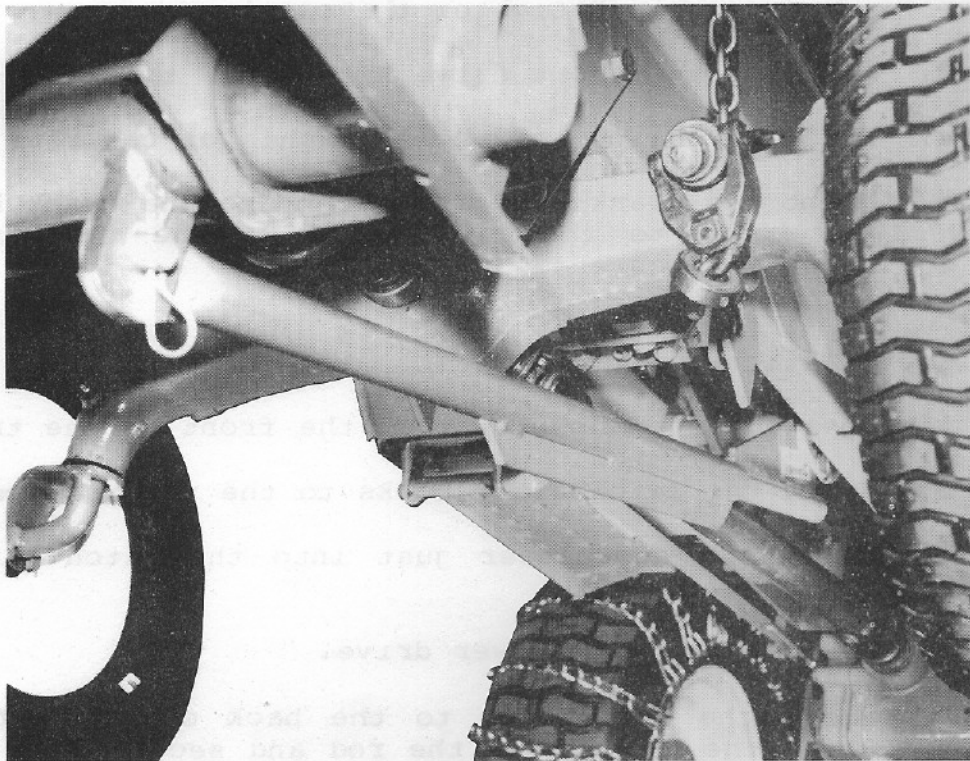

FIGURE 7
6. Move the attachment lift to the lowest position and connect the lift linkage. Secure with a washer and hair pin cotter at each end. See Figure 7.